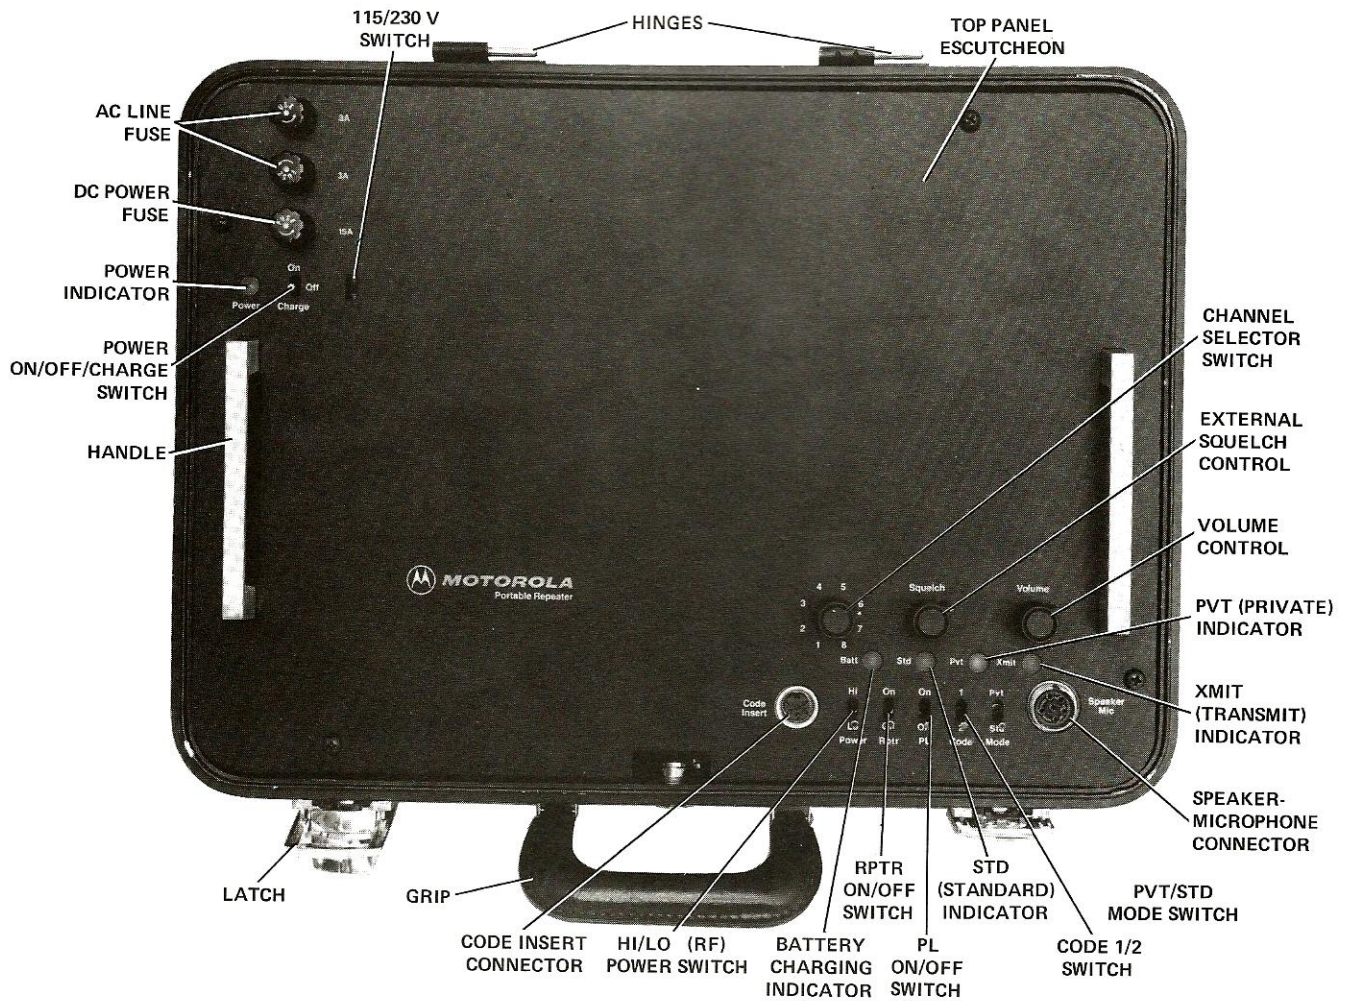

Figure 2-1. Top Panel Controls
Figures 2-1 through 2-3 illustrate the various operational controls and functions provided on the repeater for setup and operation. A complete description of each control, switch, indicator, and connector is given in the following paragraphs.
a. Controls and Switches (Figure 2-1)
b. Indicators (Figure 2-1)
c. Connectors (Figures 2-1 and 2-2)